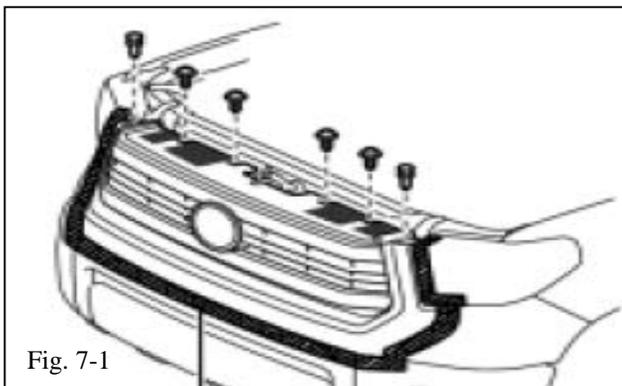

Fig. 7-1
- (a) Put protective tape around the radiator grill sub-assembly (Fig. 7-1).
- (b) Remove the 4 screws and 2 clips (Fig. 7-1).